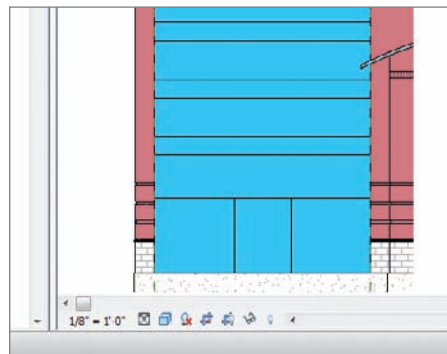

FIGURE 16.33 Chopping up the panel. (Note that the levels have been removed for clarity.)
18. Copy the grid to the right 6'-0". Your wall should now look like Figure 16.33.